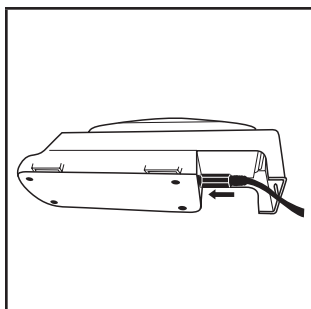

Fig. 1 - Single-station charger setup
- 3M™ Single Station Battery Charger TR-641N: Insert the TR-941N's DC supply cord into the cradle (Fig. 1). Plug the power cord into an AC power source (100-240V).